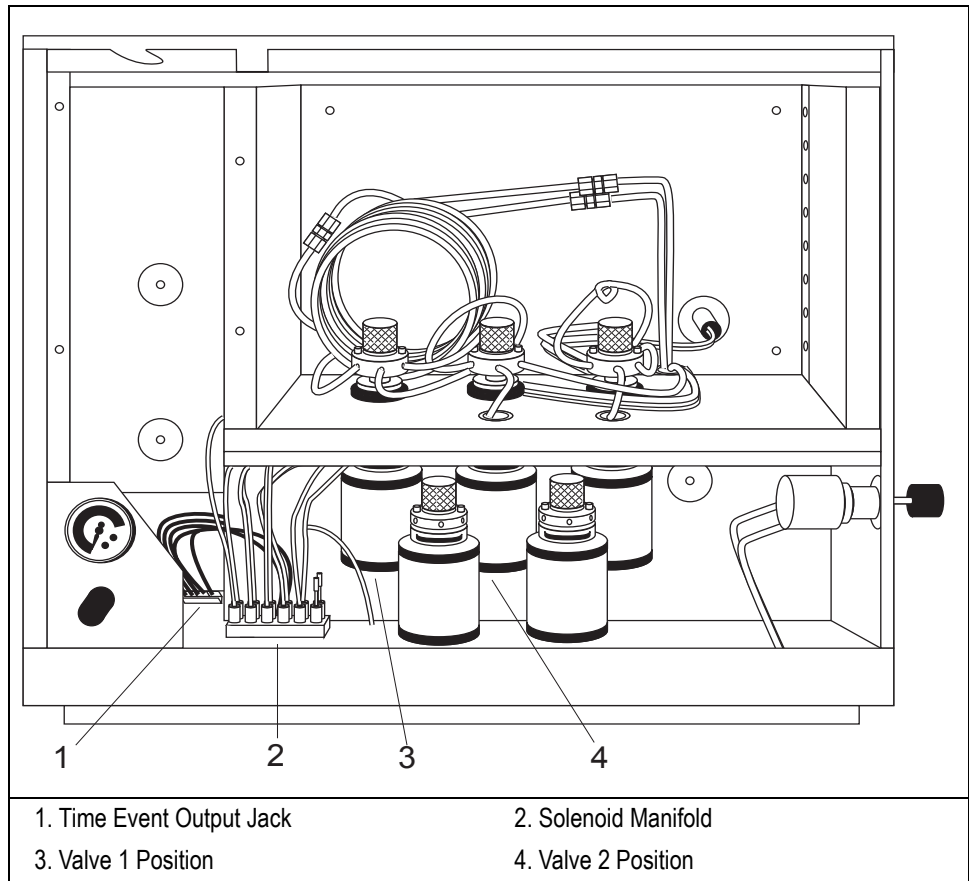

Figure 2-1. Timed Event Output Jacks, Solenoid Manifold, and Valve Positions
1. Locate the solenoid manifold in the rear floor of the valve compartment (Figure 2-1). The space closest to the rear of the GC is reserved for pneumatic valve 1, next is valve two, and so on. A total of 6 pneumatic valves can be installed (up to 4 in the upper compartment and up to 2 in the lower).